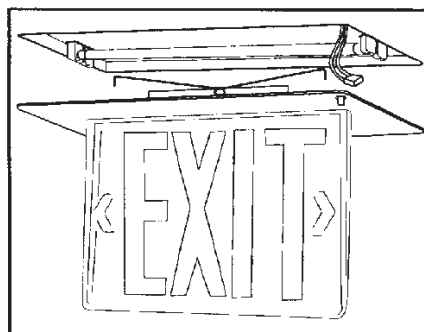
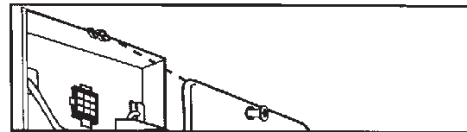

Fig. 1
Fig. 5
Step 4. Self-powered units only - plug four position connector into test switch P.C. Board assembly mounted to face plate casting. (See Fig. 1 and Fig. 5)
- Step 6.** (cont'd) Self-powered units only-Plug four position connector into test switch. P.C. Board assembly mounted to face plate casting. (See Fig. 1)